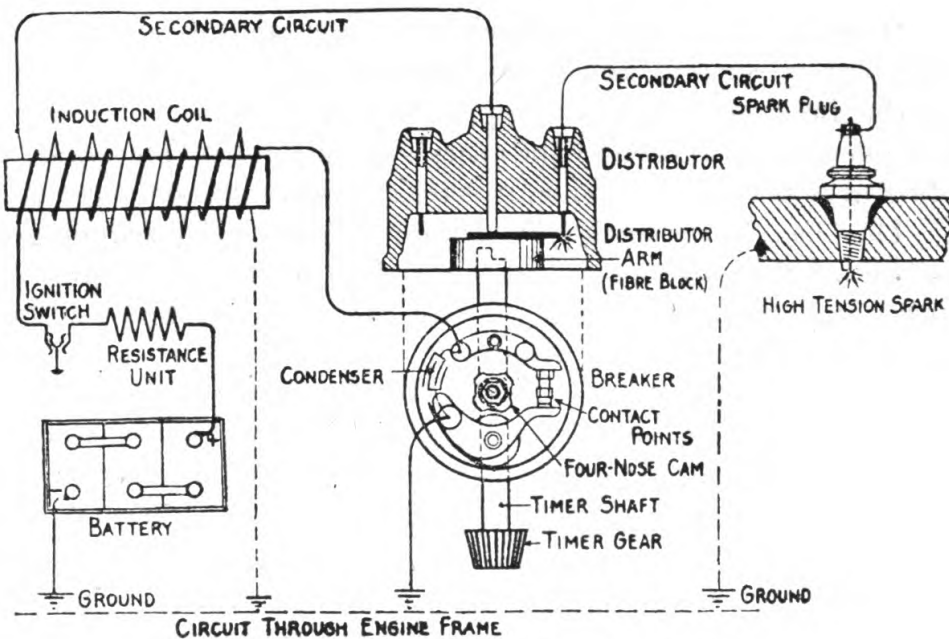

FIGURE 4.—Typical battery ignition system.
(1) Automatically supplying a proportionate increase in fuel as the suction decreases.
(2) Increasing the air proportionately as the suction increases.
Q. Draw a wiring diagram of a typical battery ignition system.—A. See figure 4.
(1) The primary winding has a small number of turns of large wire wound on a soft iron core. The voltage of the primary is from 6 to 12 volts, depending on the voltage of the battery.